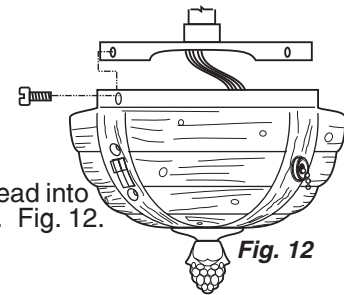

Fig. 12
B. Lift the cup into place. Insert one of the screws removed earlier and thread into switch cup plate. Insert the remaining switch cup screws and tighten all. Fig. 12.